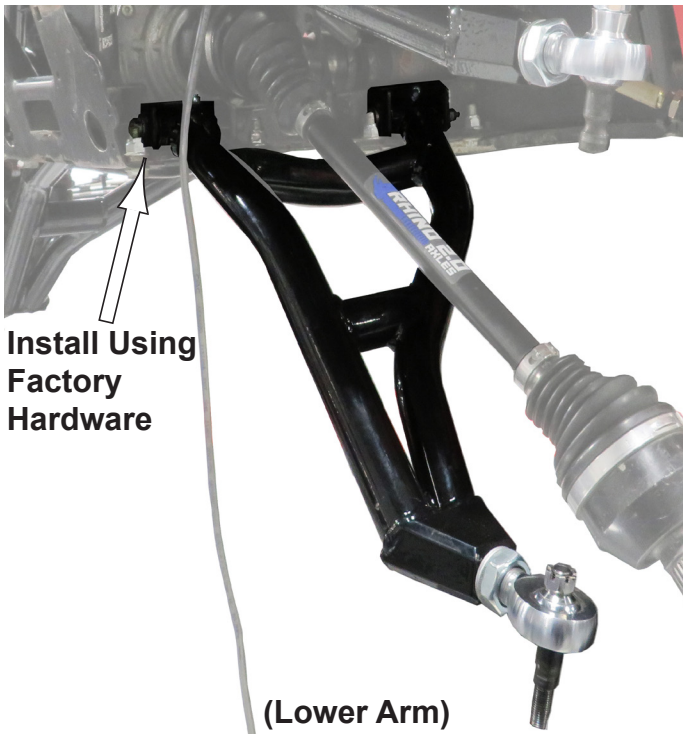

Fig.10
10. Once the bushings are installed in your New Arms, first install the New Lower Arm using your stock bolts and hardware from your factory A-Arm. See **Fig.10**.